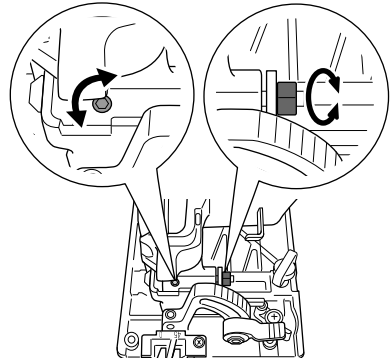

Fig. 16
- (1) Unfasten only the mounting screws of the saw cover hinge portion (Fig. 16).